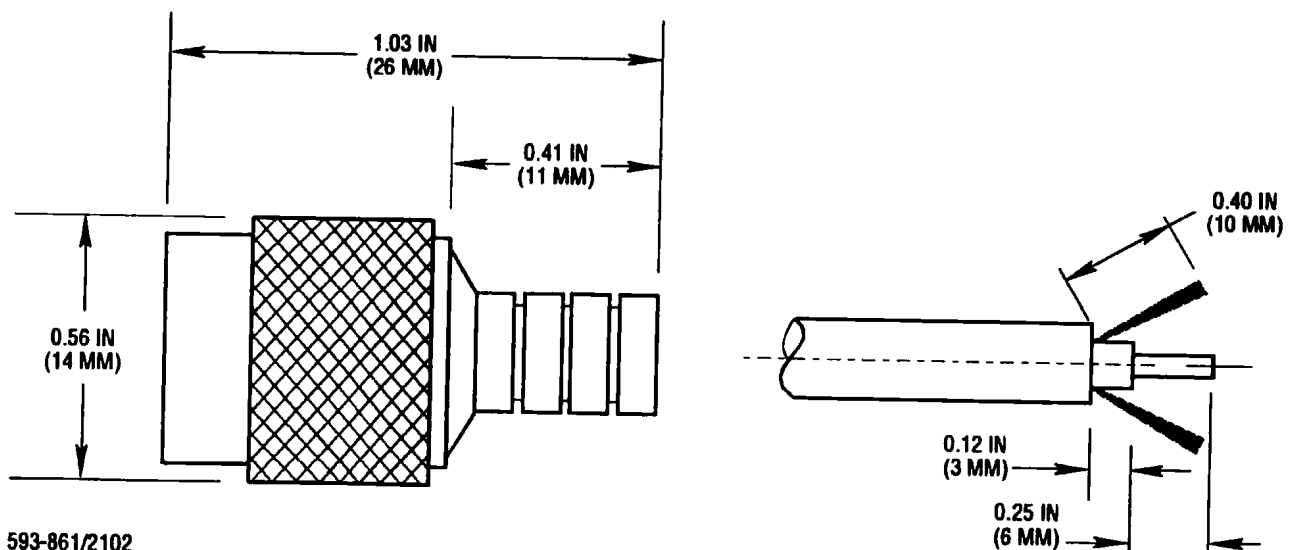

Figure 5. Reference Station Antenna Connector Assembly (TNC)
3. Connect the TNC connector end of the coaxial cable to the antenna. Figure 5 is provided to help you replace your TNC connector, if required.